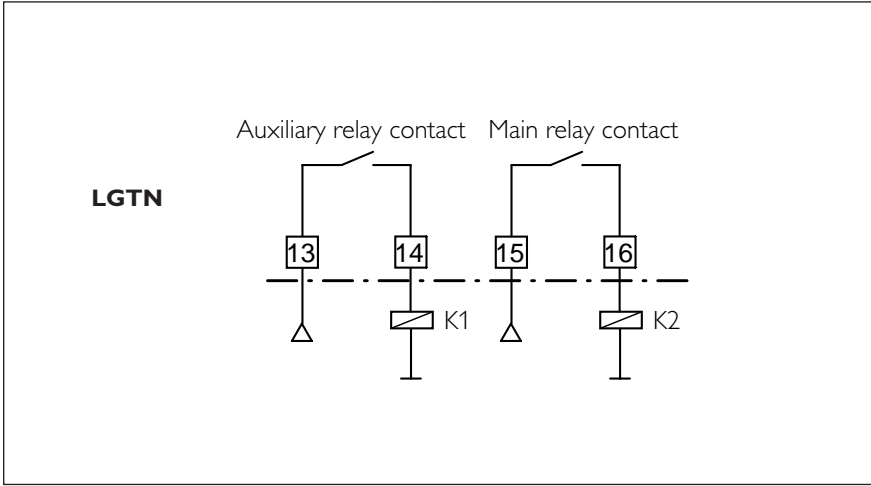

Fig. 14. Output circuit elements
- ▶ Main relay contact output (Fig. 14),
- ▶ Auxiliary relay contact output (Fig. 14),